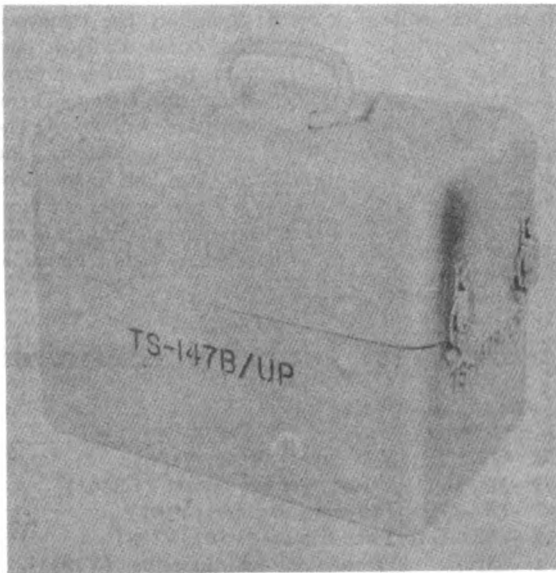

Figure 1-2. Test Set Stowed for Carrying
a. **RADAR TEST SET TS-147B/UP.**—The Test Set is enclosed by a dust cover on five sides and a removable cover over the front panel for transit purposes (see figure 1-2). With the cover in place over the panel, the Test Set measures 11-27/32 inches wide by 19 1/8 inches long by 13 3/8 inches high. All cables and accessories are stored inside the removable cover with the exception of the spare thermistor mount which is mounted inside the chassis. When both the removable cover and the dust cover are removed, the Test Set can be separated physically into two major sections (see figure 4-4). The one section consists of the front panel upon which are mounted the microwave assemblies and waveguide sections. Input and output r-f signals appear in this section of the Test Set. The other section contains the electronic circuits mounted upon the main frame and chassis assembly. The electronic circuits include the video amplifier, which receives either the detected r-f input pulses or an externally applied trigger voltage and which applies an amplified trigger to the sawtooth sweep generator; the sweep generator, which modulates the internal klystron oscillator; the r-f power-level bridge, which indicates the power levels of internally generated and externally applied signals; and the power supply for filament, bias and plate-supply voltages.